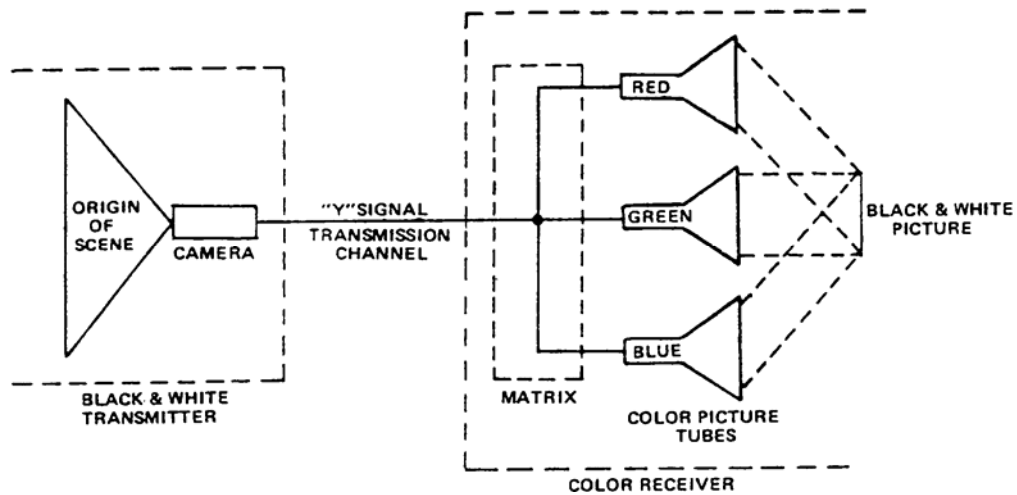

Figure S-16. Reverse Compatibility
- b. After a white raster is obtained, the signal is applied to all three guns and the black and white signal being transmitted produces a monochrome picture. In the process of producing a white screen, the electronics of the CRT automatically separate the brightness signal into the ratio of 30 percent red, 59 percent green, and 11 percent blue as the signal is applied to the electron guns. Figure S-16 shows reverse compatibility.